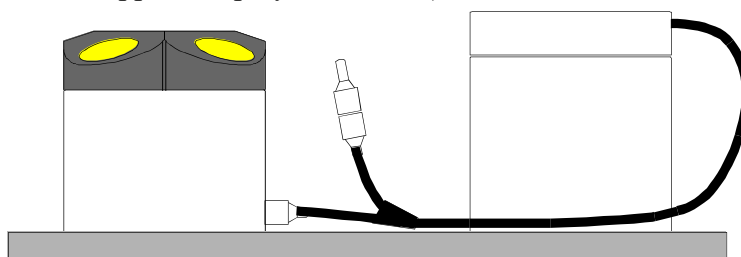

Figure 5-8. Argonaut-SL with External Battery Housing
- **Figure 5-8** shows a typical installation of an SL with an external battery housing. The battery housing connector is recessed in the end cap and is accessed from the side. SL systems with the external battery housing include the housing, one alkaline battery pack, the splitter cable, a dummy plug, and a mounting plate to hold the SL and battery housing (this is normally attached to a user-supplied deployment frame).